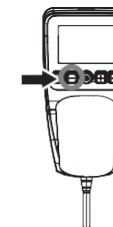

Fig.12
8.4.4 Press the power switch lightly, the battery and speed indicators will light up, and press the "-" key to adjust the speed to 1 level. Speed requirements for each gear(Fig.12):